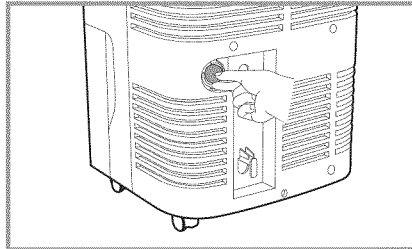

Fig.1
1. Take off GRAVITY DRAIN Cap. (Fig.1)